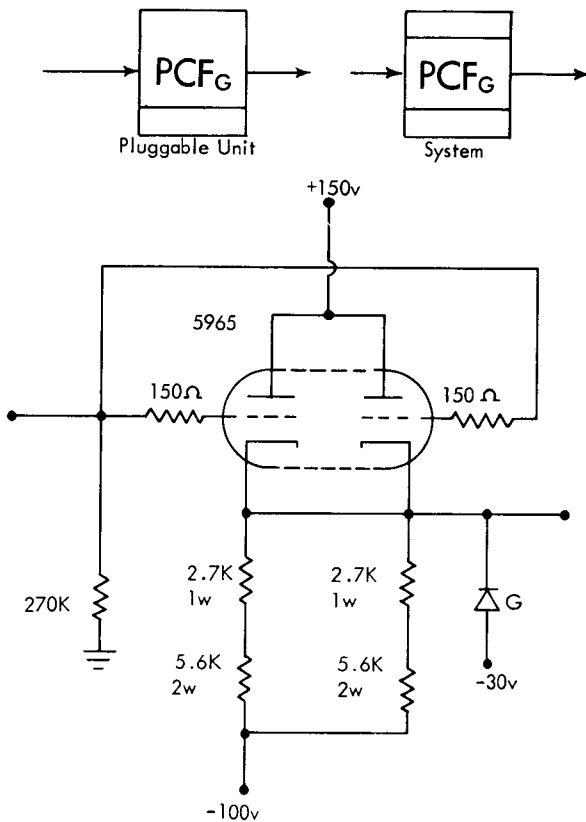

FIGURE B68. POWER CATHODE FOLLOWER (PCF_G)
The oscillator output must be powered before it is fed into the sync generator. PCF_G (Figure B68) is a special cathode follower used for this purpose. It also serves as a level setter because: (1) its input contains part of a divider attached to the output of the master oscillator unit, and (2) its cathode circuit contains a clamp diode. The circuit is two parallel ordinary cathode followers with no bias resistors. A slight voltage rise through the circuit can be expected.